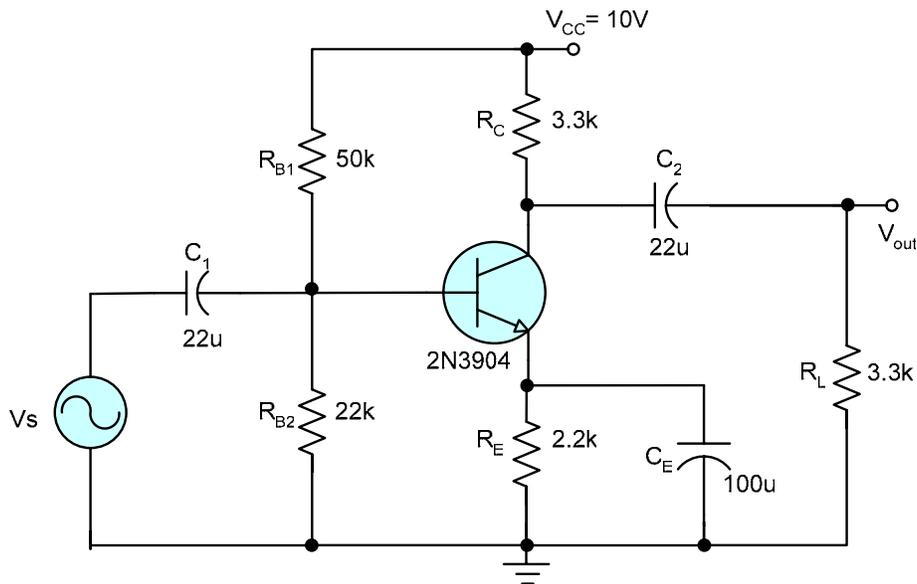

Figure 2
1. For the circuit shown in Figure 2 consider $\beta=75$. Calculate the dc components I_{BQ} and I_{CQ} , V_{CEQ} .
Figure 2, below shows the transistor configured as a common emitter amplifier. In this diagram, V_S is the a.c. signal source, and R_L is the load. V_{CC} is a power supply, which provides the transistor with the necessary power to amplify the a.c. signal. Resistors R_1 and R_2 are used to establish the correct voltage at the base of the transistor. (See the text for more details.)
1. Wire the circuit as shown in Figure 2. The pin diagram for the 2N3904 transistor is shown in Figure 1.
Use Schematics to connect the circuit shown in Figure 2. Analyze the circuit by choosing *Analysis* → *Setup* → *Bias Point*. Run the simulation by choosing *Simulate* from the *Analysis* menu (See the results from examine output choosing from file Menu). Write all the results in the following table.
Use Schematics to draw the amplifier circuit in Figure 2. For source V_s use *V_{SIN}* from the *Get New Part* Menu. Double click the source and enter the values of peak voltage and frequency of 10mV and 1 kHz. Exactly follow the same procedure used in Lab. Write all the results in Table 2.